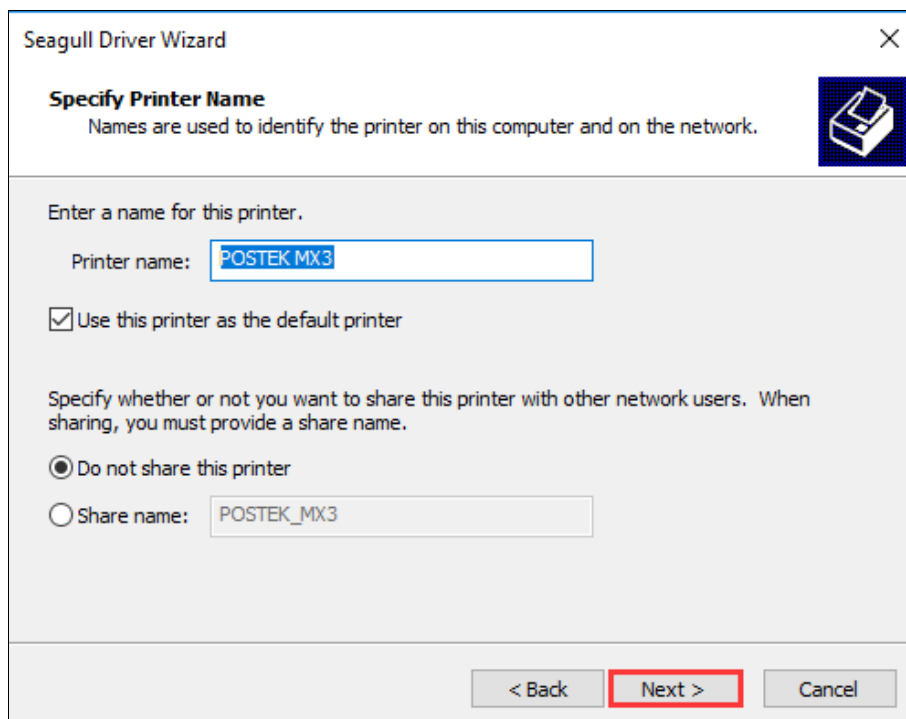

Figure 2-37 Specify Printer Name
8. On the “Specify Printer Name” screen, enter a name for the printer, as shown in Figure 2-37, then click “Next” to complete the driver installation.